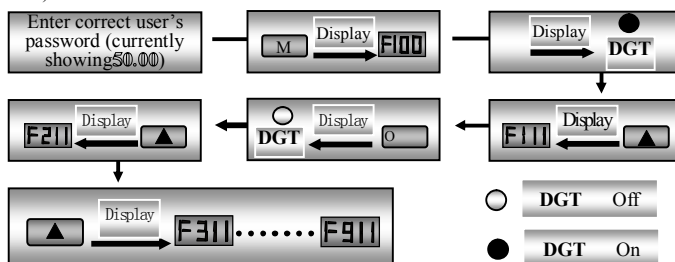

Fig 2-2 Switch over in a Code Group or between Different Code-Groups
e.g. when function code shows F111 and DGT indicator is on, press “▲”/“▼” key, function code will keep increasing or decreasing by degrees within F100~F160; press “O” key again, DGT indicator will be off. When pressing “▲”/“▼” key, function codes will change circularly among the 10 code-groups, like F211, F311...FA11, F111..., Refer to Fig 2-2 (The sparkling “50.000” is indicated the corresponding target frequency values).